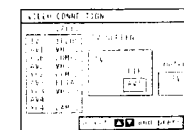

Fig. 42.
- 1 Select Video Connection with or and press OK. The VIDEO CONNECTION menu appears. (See Fig. 42)